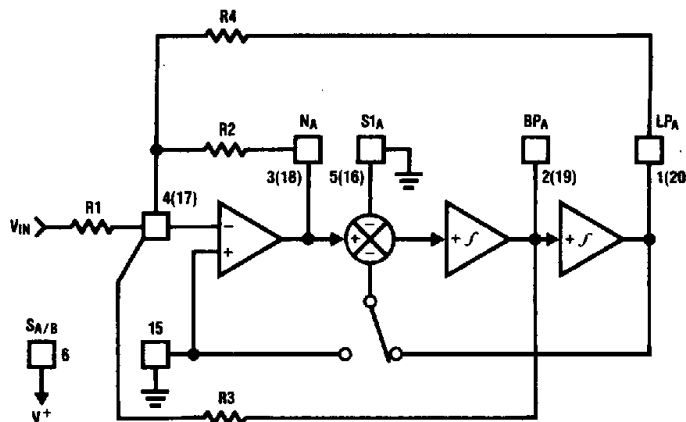

FIGURE 10. MODE 2
**$H_{ON}$** : the gain (in V/V) of the notch output as  $f \rightarrow 0$  Hz and as  $f \rightarrow f_{CLK}/2$ , when the notch filter has equal gain above and below the center frequency (Figure 4). When the low-frequency gain differs from the high-frequency gain, as in modes 2 and 3a (Figures 10 and 12), the two quantities below are used in place of  $H_{ON}$ .
(See Figure 10)